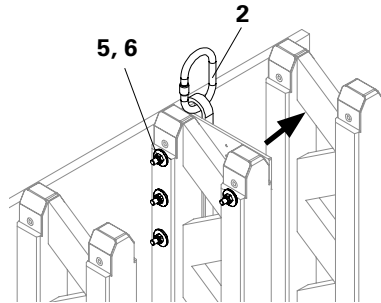
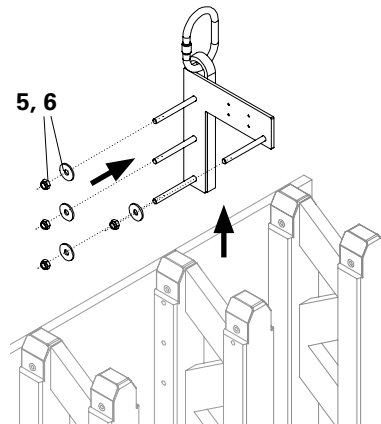

Fig. 9
Fig. 10
2. Release the four Hex. Nuts (5), SW 16, by turning in an anti-clockwise direction, and remove. (Fig. 9)
3. Remove the four Washers (6).
4. Separate the Crane Eye 24 from the lattice girder. (Fig. 10)